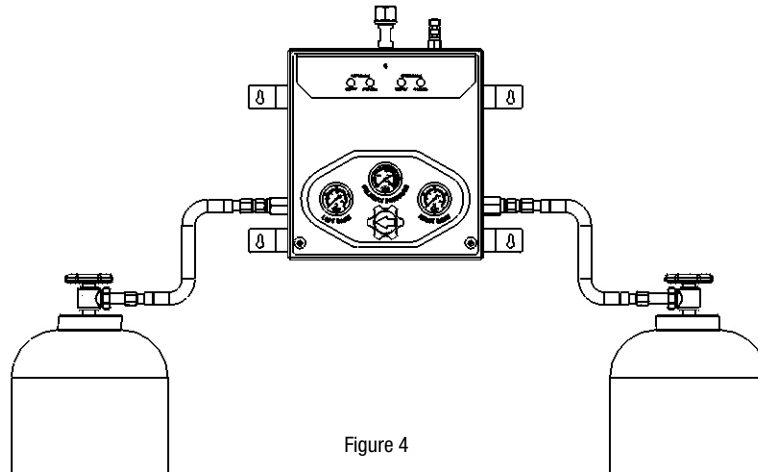

Figure 4
5. If the system only has one cylinder on each side with no right and left header bar, then assemble the cylinders and hoses to the manifold box as shown in Figure 4. As a safety precaution, cylinders must be secured in place with approved cylinder mounting brackets according to OSHA, state and/or local codes to prevent accidental tipping. Wrench tighten all connections. If the system is configured for multiple cylinders per side, then proceed to step 6. Otherwise, refer to the Operation Instructions section.